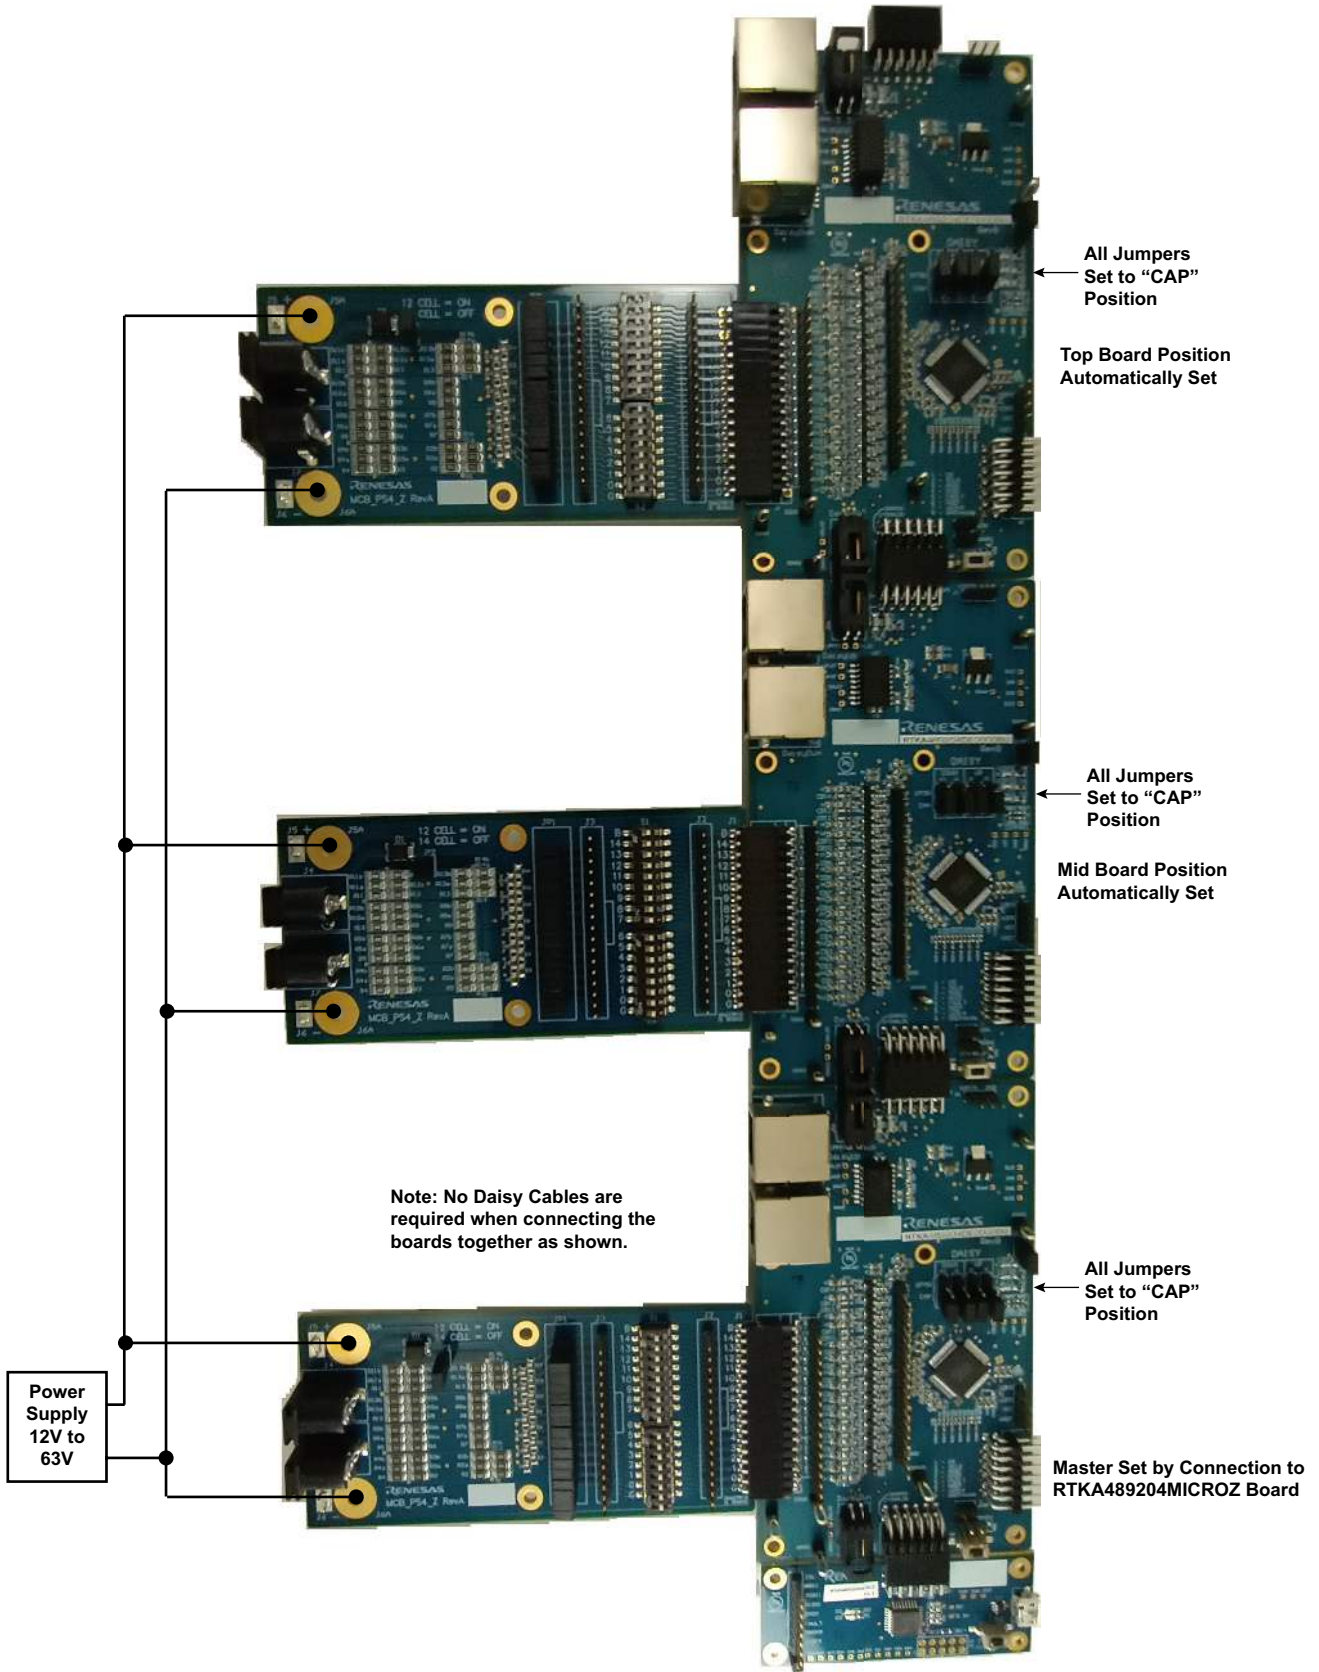
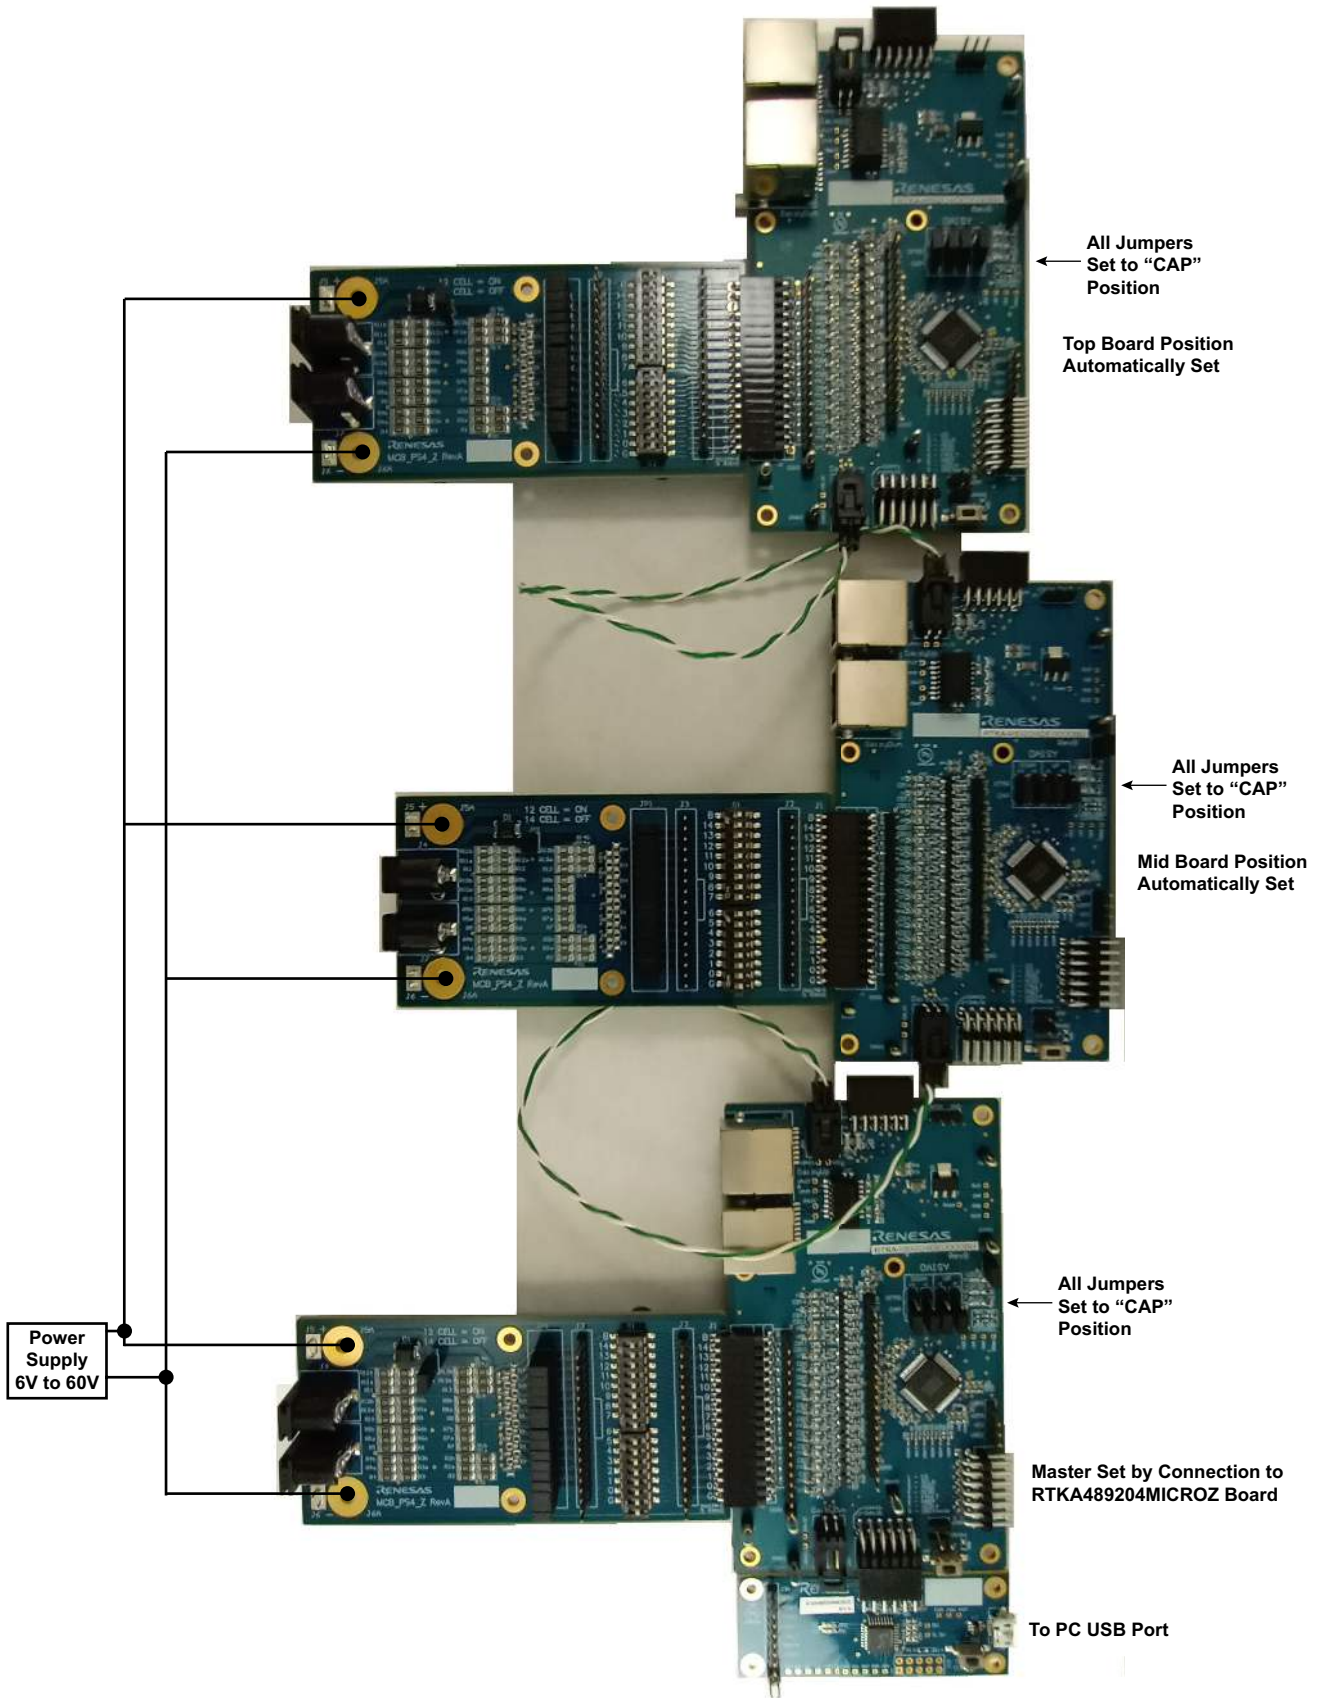

Figure 5. RTKA489204DK0000BU RevB in 36-Cell Direct Connect Daisy Chain Configuration (Capacitor)
Figure 6. RTKA489204DK0000BU RevB in 36-Cell Cable Connect Daisy Chain Configuration (Capacitor)
- a. With capacitor isolation, the boards connect together directly (Figure 5) or with cables (Figure 6), or they connect using a combination of direct and cable connections.